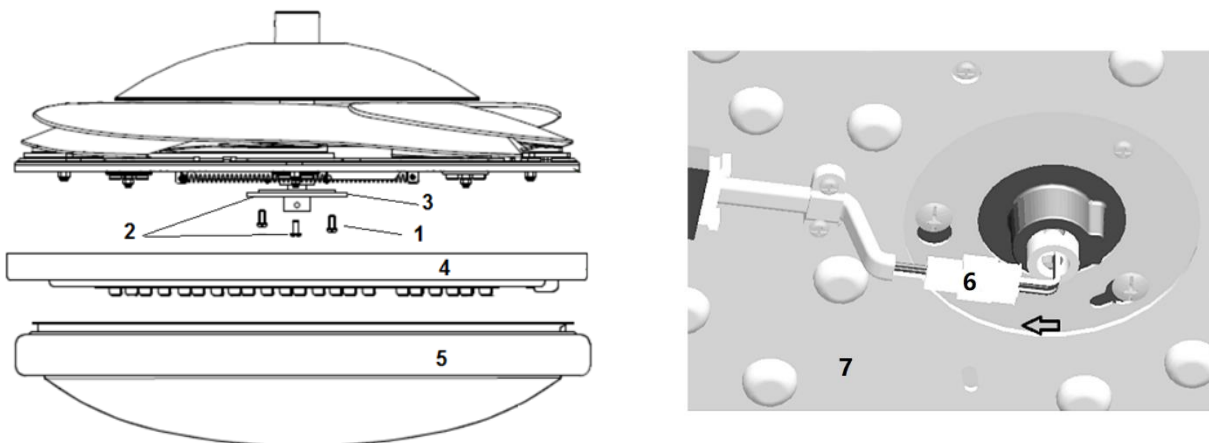

Fig. 9
1. Remove the lamp shade (5) from the lamp base (4) by turning it anti-clockwise.
2. Loosen the screw (1) from the base bracket (3). Align the two slot screws (2) with the keyhole slots of the lamp base (4).
4. Secure screw (1) back to the base bracket. Tighten all three screws. Do not over-tighten.
5. Connect the upper plug (6) from the fan to the lower socket (6) in the LED board (7).
6. Finally install the lamp shade to the lamp base by turning it clockwise. Fig.9